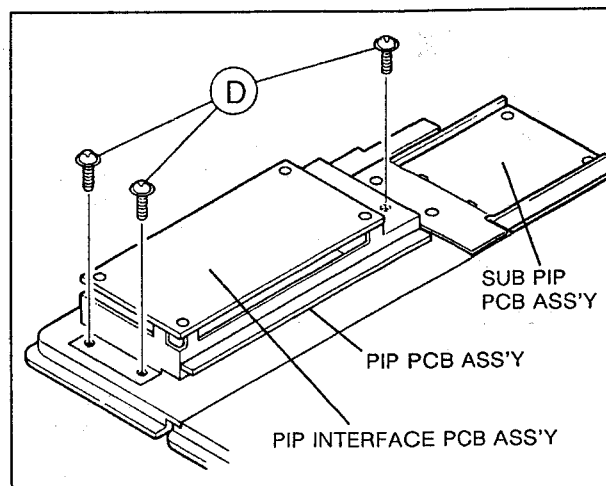

Fig. 5
- 1. Pull out the main chassis. Take out 3 screws ④ indicated in Fig. 5, pull the unit outward and raise it to remove.